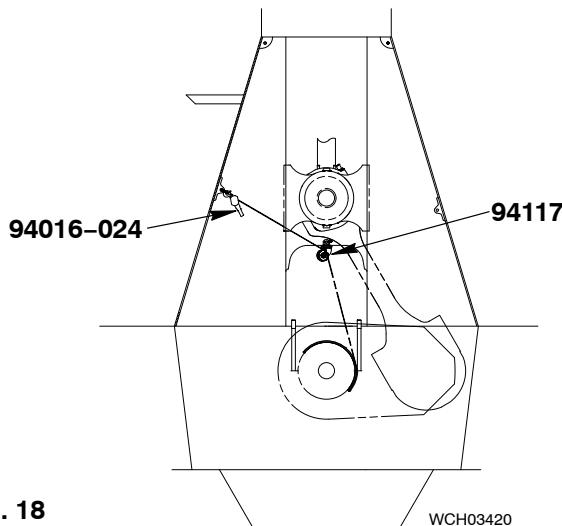

Fig. 18
- 9) Operate the manual ratchet (94016-006, Fig. 18) to move the bottom bearing shell until the chain hook is adjacent to the roller support (94117).